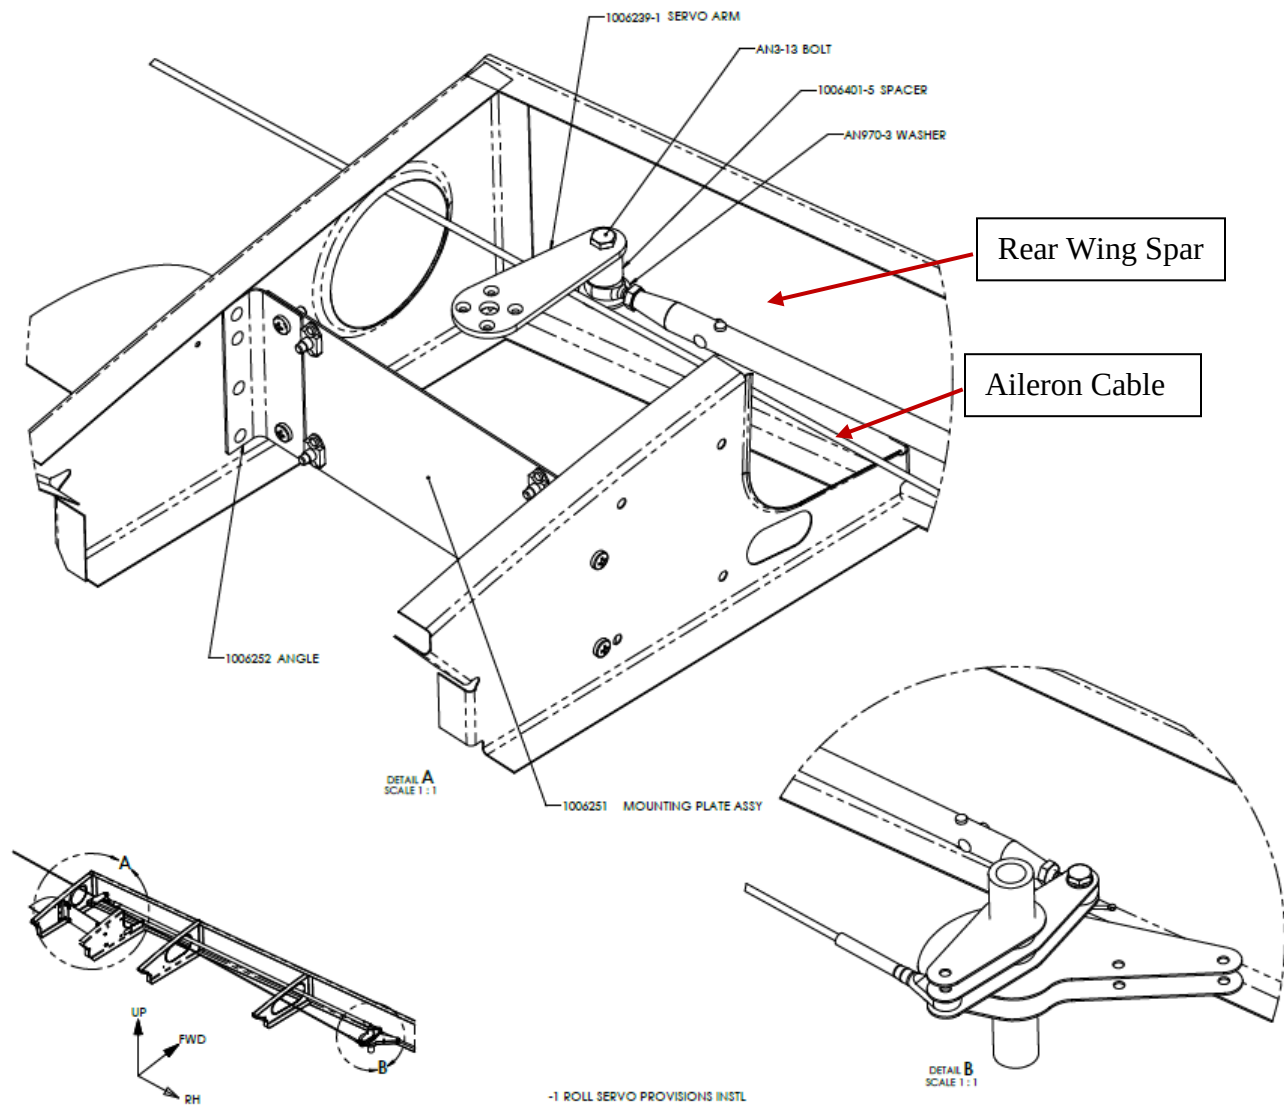
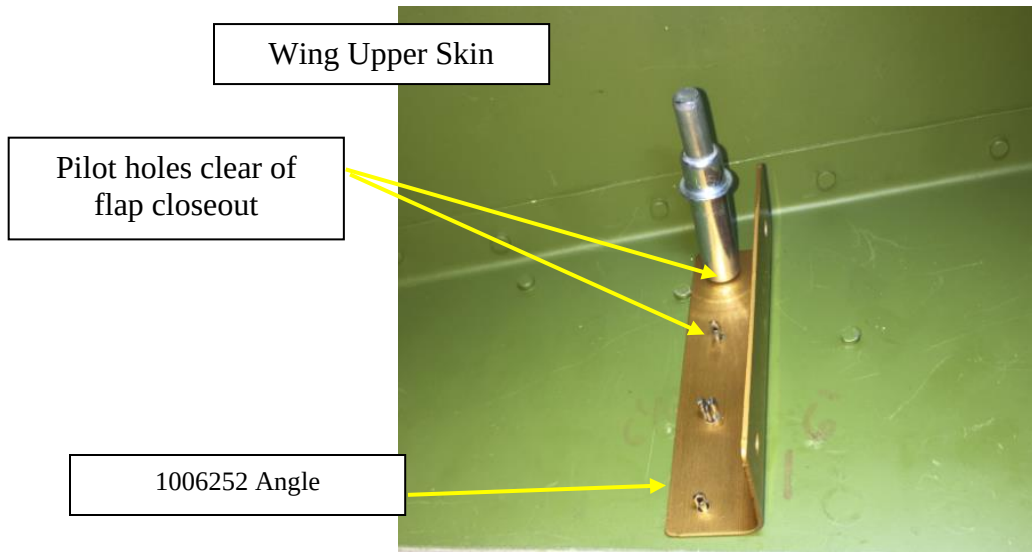
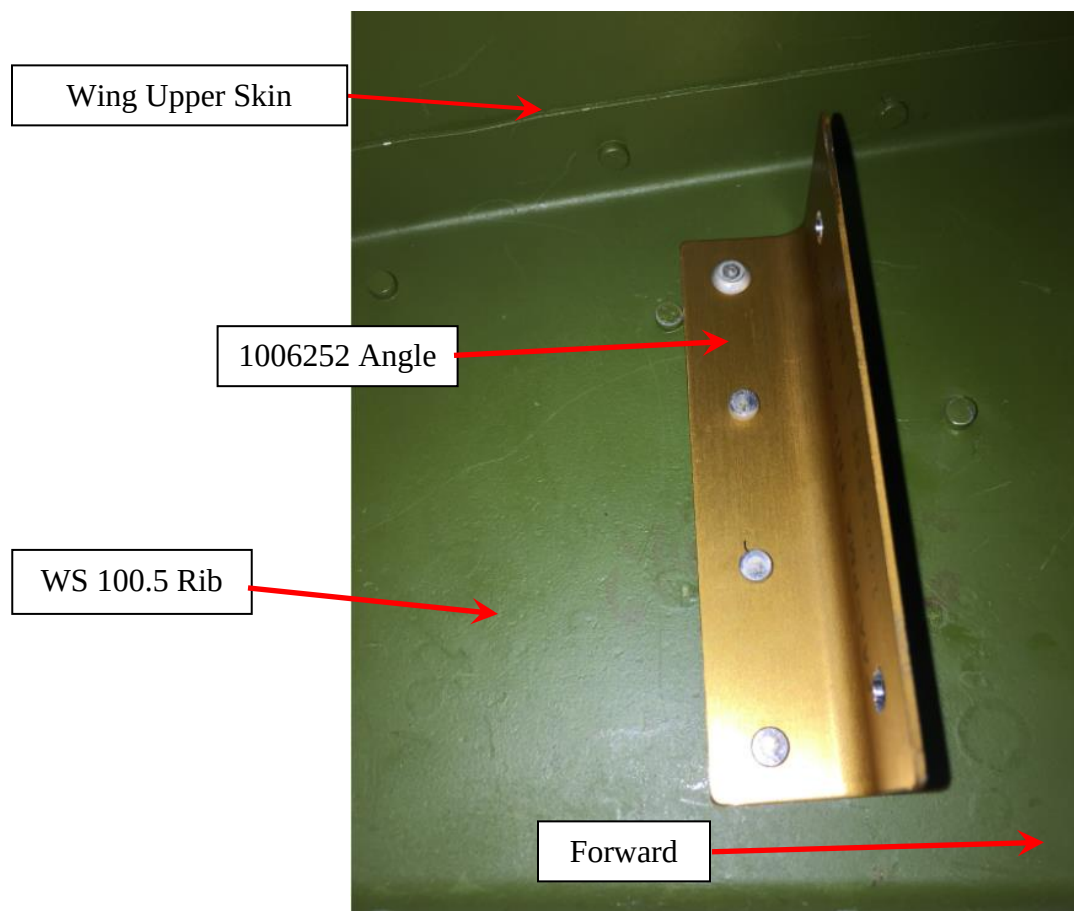

FIGURE 2-2 TRIO PRO PILOT ROLL SERVO INSTALLATION
FIGURE 2-6 1006252 INBOARD MOUNTING ANGLE INSTALLATION
FIGURE 2-8 INBOARD ANGLE INSTALLATION AT WS 100.5
5. Ensure the second from top pilot hole on the inboard mounting angle will be in the middle of the flap closeout. Refer to Figure 2-2. Alternatively, all pilot holes could be outside of the flap closeout as depicted in Figure 2-6.
10. Secure the 1006252 Angle in position using 3/32" Silver P Series Cleco Temporary Fasteners. Refer to Figure 2-6.
12. Remove the 1006252 Angle and deburr all four (4) angle and W.S. 100.5 holes.
14. Install four (4) MS20470AD4-4 rivets through W.S. 100.5 into the Angle at W.S. 100.5 rib. Refer to Figure 2-8.